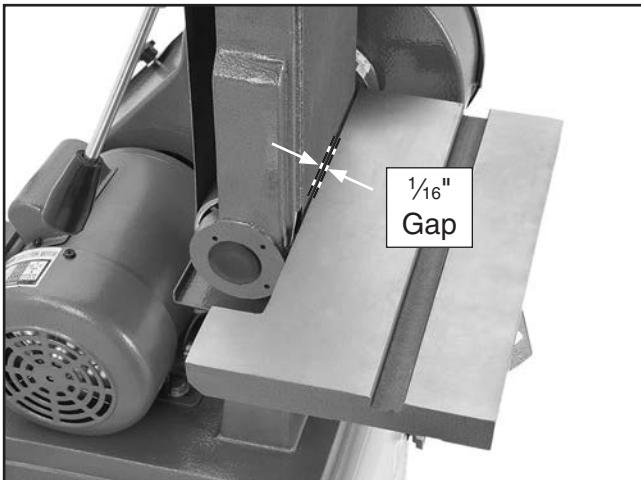

Figure 67. Correct distance between work table and sanding belt.
9. Adjust the front of the work table $\frac{1}{16}$ " away from the sanding belt (see **Figure 67**) across its entire length.